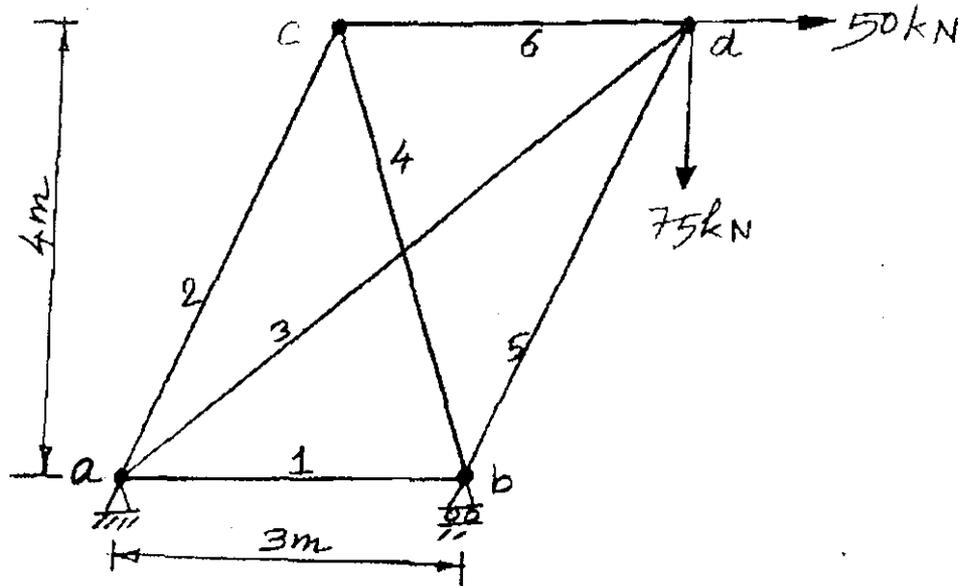

Fig. 1
11. (a) Determine the forces in the members of pinned-frame shown in Fig. 1. Use flexibility method. Assume AE - constant.